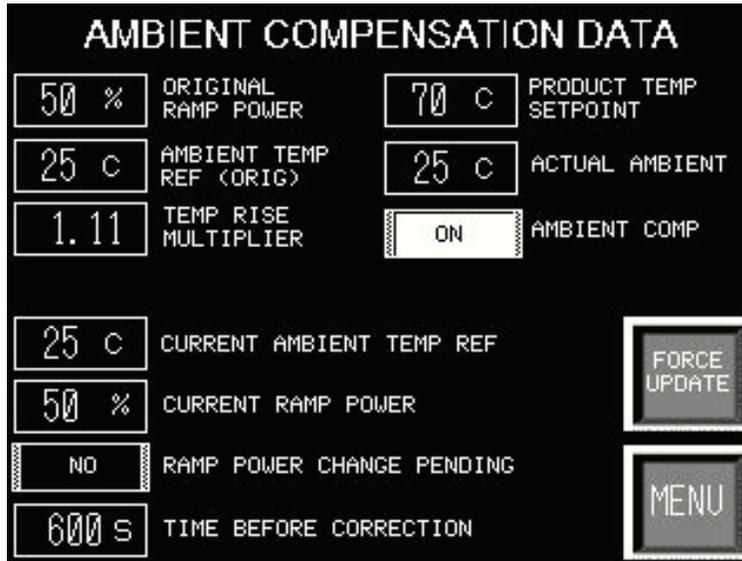

Figure 22 Ambient Compensation Data Screen
2. From the **PLC/IO** screen, select **AMB/C DATA** button to view the data table on the **Ambient Compensation Data** screen (see Figure 22).